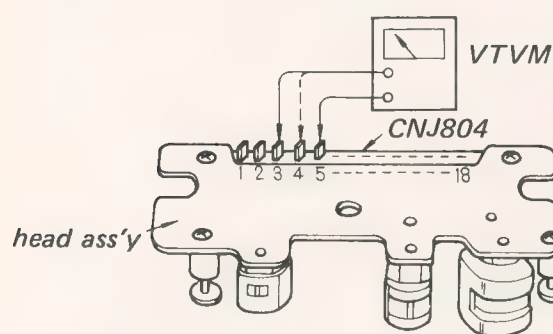

Fig. 3-3-6. Dummy coil adjustment setup
- (1) Pull out the head cover upwards.
- (2) Connect the VTVM across the terminal No. ③ and ⑤ (No. ④ and ⑤) of the head connector (CNJ804) as shown in Fig. 3-3-6.
- (3) Place the unit in stereo-record mode.
- (4) Memorize the VTVM reading.
- (5) Set L-CH (R-CH) only in record mode.
- (6) Adjust L503 (L504) so that the VTVM reading across the terminal No. ③ and ⑤ (No. ④ and ⑤) is the same as the value obtained in the step (4).